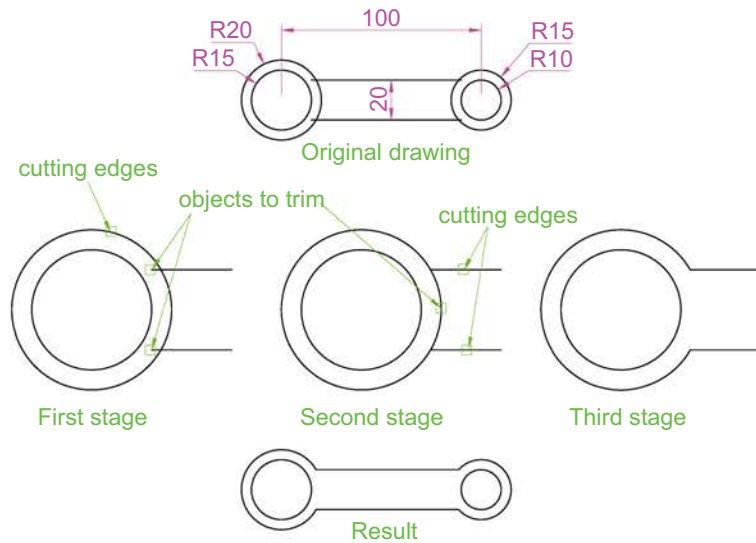

Fig. 6.28 Example – Trim
EXAMPLE – TRIM (FIG. 6.28)
1. Construct the drawing **Original drawing** in Fig. 6.28.
3. This completes the **First stage** as shown in Fig. 6.28. Repeat the **Trim** sequence for the **Second stage**.
4. The **Third stage** drawing of Fig. 6.28 shows the result of the trims at the left-hand end of the drawing.
5. Repeat for the right-hand end. The final result is shown in the drawing labelled **Result** in Fig. 6.28.